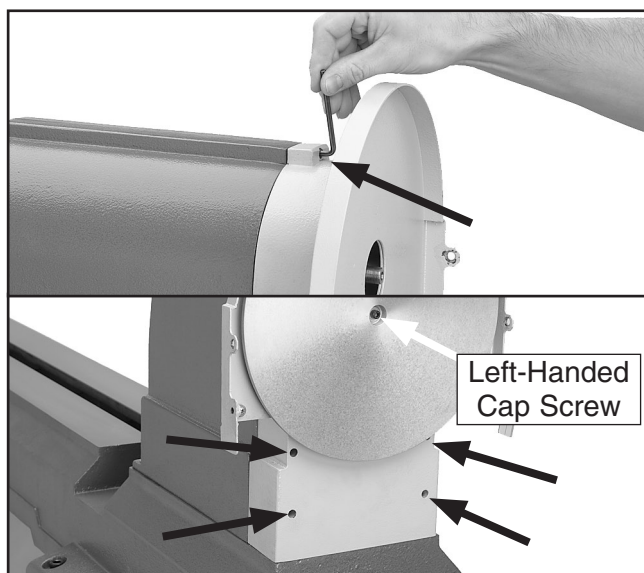

Figure 48. Disc housing cap screw locations.
4. Remove the five cap screws (see **Figure 48** on **Page 33**) that secure the disc housing to the headstock, and remove the disc housing.
4. Remove the five cap screws (see **Figure 48**) that secure the disc housing to the headstock, and remove the disc housing.
3. Remove the left-handed cap screw (**Figure 48** on **Page 33**) in the center of the sanding disc and slide the sanding disc off.
4. Remove the five cap screws (**Figure 48** on **Page 33**) that secure the disc housing to the headstock, and remove the disc housing.